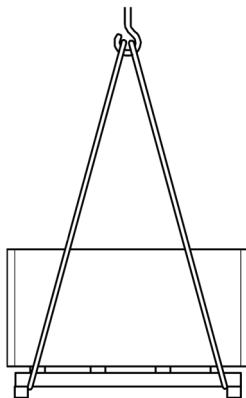

Fig. 14: Attaching the hoist
1. ➤ Attach ropes, straps or multi-point suspension gear in accordance with Fig. 14 to the pallet and secure the pallet to prevent slippage.